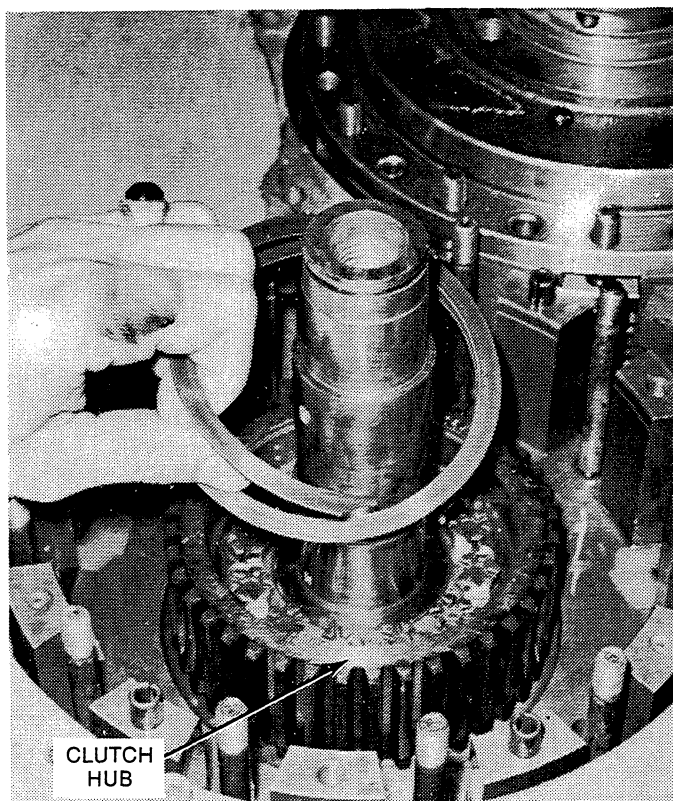

Figure 6-17. *Removing or Installing Retaining Ring (Oil Dam) from Clutch Hub.*
9. Remove retainer ring (oil dam) (Figure 12-2, 25) from the ID of the clutch hub (30). See Figure 6-17.